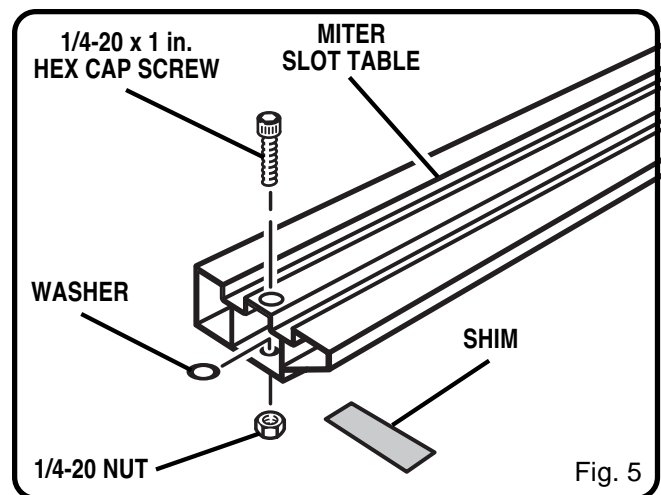

Fig. 5
- Place mounting bolts with washers through holes in the miter slot table and the saw table frame as shown in Figure 5. Place a nut under the lip of the saw frame on each bolt. Tighten firmly and evenly. Shims will be secured when you tighten the screws.